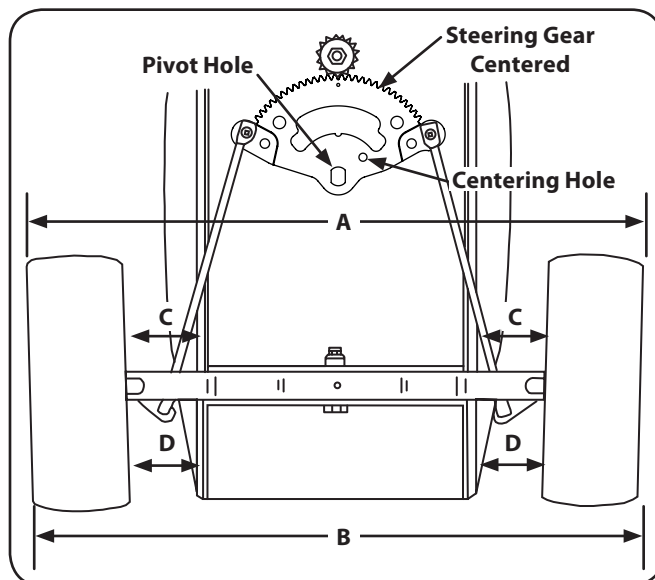

Figure 6-12
The front wheels should toe-in approximately $\frac{1}{8}$ to $\frac{1}{4}$ " as measured across dimensions A and B. See Fig. 6-12.
- Check the steering gear to ensure it is in the centered position. The hole in the steering segment gear will align with the hole in the steering housing (See Fig. 6-12).
- Measure the distance between the bottom edges of the tractor frame channels and the marks on the front of each wheel (See measurement D in Fig. 6-12). These two measurements should be equal.
- Measure the distance between the frame and the marks on the rear of each front wheel (See measurement C in Fig. 6-12). Measurement D should be approximately $\frac{1}{16}$ - to $\frac{1}{8}$ -inch less than measurement C on each side of the tractor.